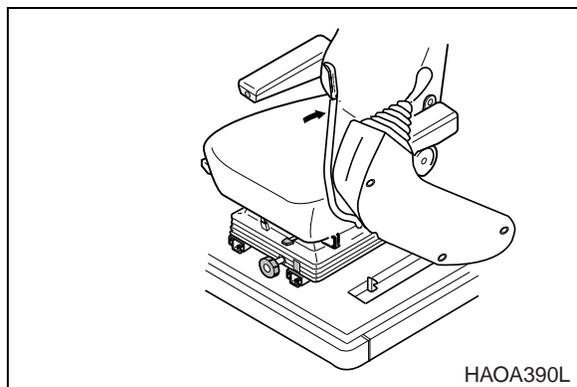

Figure 27
1. Pull safety lever (Figure 27) up to allow left hand control console to raise into the "LOCKED" position. Make sure that the safety lever is "LOCKED" into the raised (up) position. When safety lever is in the "LOCKED" position, the front attachment, swing and travel movement will be disabled even though a lever is moved.